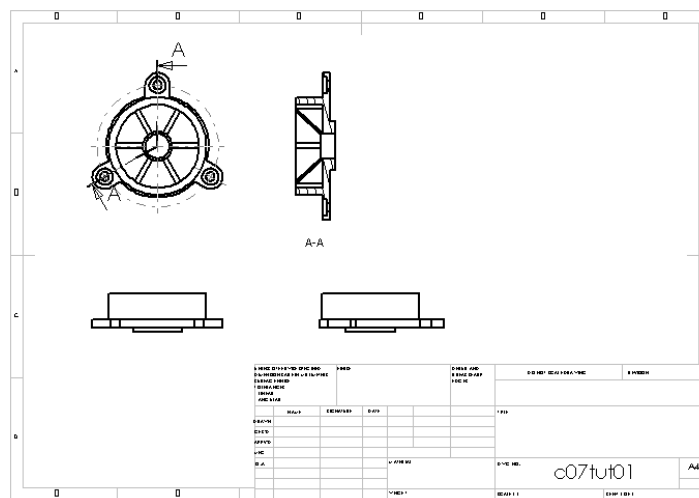

Figure 12-54 Sheet after generating the aligned section view
6. Place the aligned section view on the drawing sheet as shown in Figure 12-54.